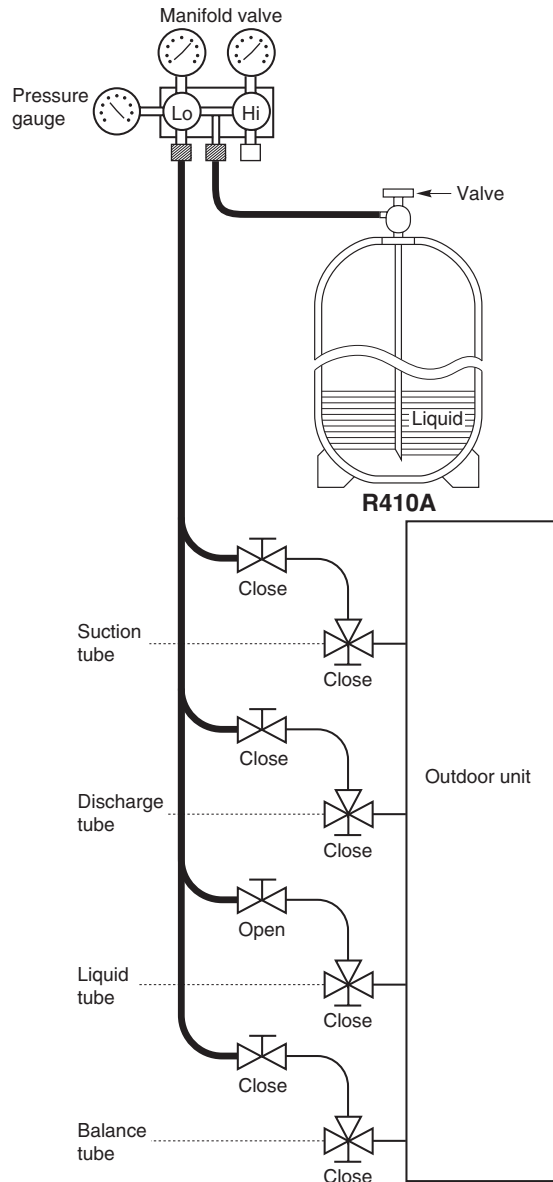

Fig. 8-5
- Charging additional refrigerant (calculated from the liquid tube length as shown in Section 1-8 "Additional Refrigerant Charge") using the liquid tube service valve. (Fig. 8-5)